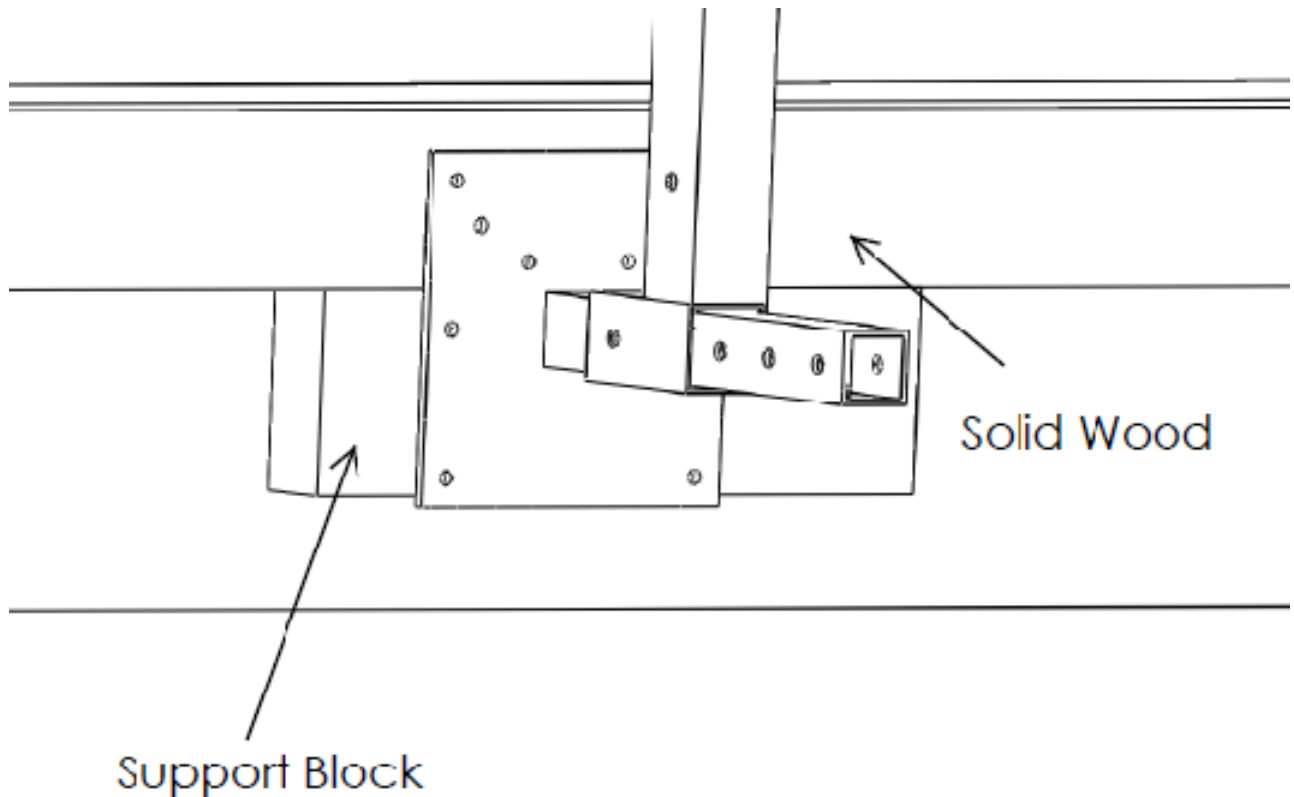

Fig 3
If there is not sufficient solid wood to fasten the mounting plate, the mounting plate can be installed so that the bottom of the mounting plate overhangs the solid wood surface. This requires the installation of a **support block** which is to be fastened to the mounting plate using at least two (2) wood screws min. 1" length. (Fig 3)